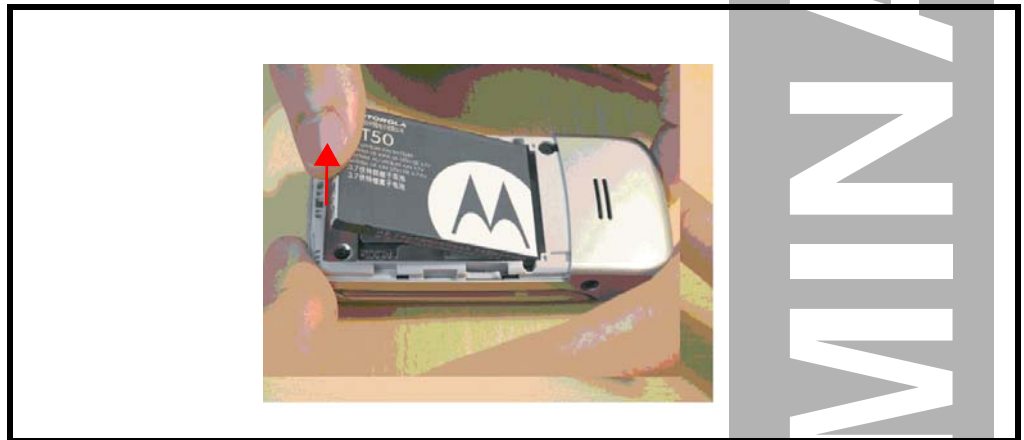

Figure 6. Removing the Battery
2. Raise and remove the battery at the direction illustrated in the Figure 6.